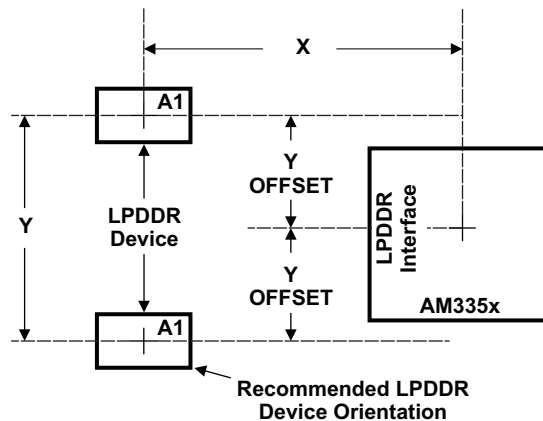

Figure 7-34. AM335x Device and LPDDR Device Placement
Figure 7-34 shows the required placement for the LPDDR devices. The dimensions for this figure are defined in Table 7-37. The placement does not restrict the side of the PCB on which the devices are mounted. The ultimate purpose of the placement is to limit the maximum trace lengths and allow for proper routing space. For single-memory LPDDR systems, the second LPDDR device is omitted from the placement.
(1) LPDDR keepout region to encompass entire LPDDR routing area.
(2) For dimension definitions, see Figure 7-34.
(3) Measurements from center of the AM335x device to center of LPDDR device.
(4) For single-memory systems, TI recommends that Y offset be as small as possible.
(5) w is defined as the signal trace width.
(6) Non-LPDDR signals allowed within LPDDR keepout region provided they are separated from LPDDR routing layers by a ground plane.